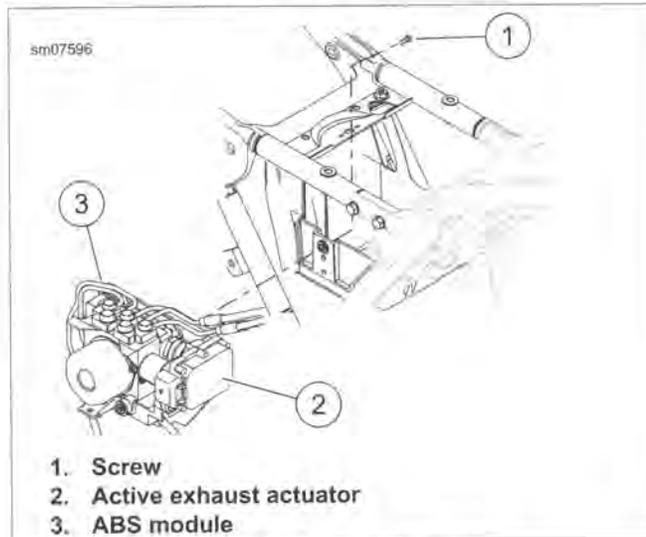

Figure 7-6. Right Side Caddy
7. See Figure 7-6. Remove screw (1) securing right side caddy to battery tray.